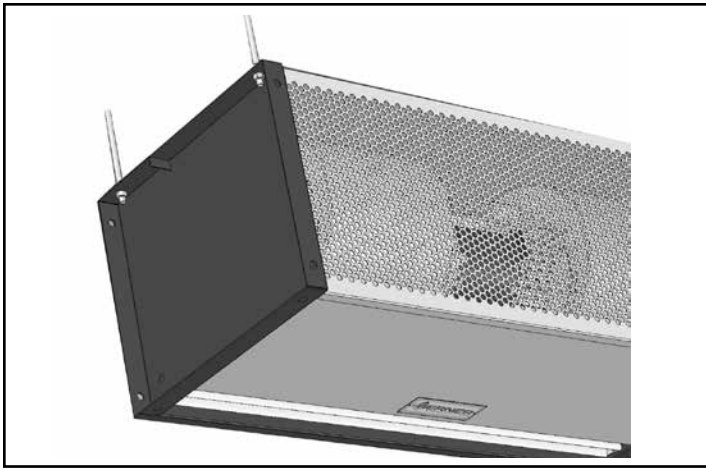
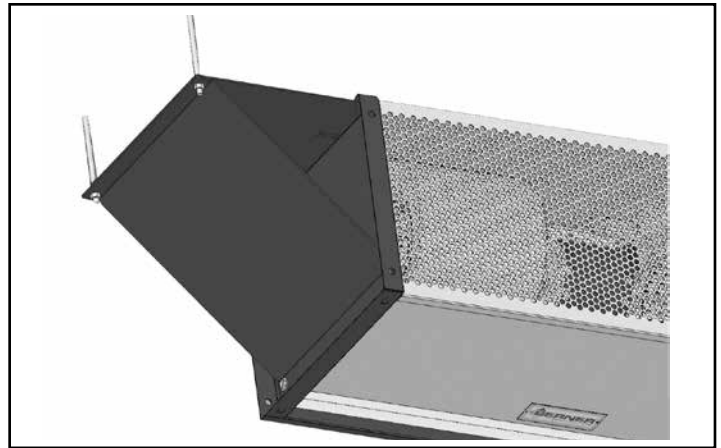

FIGURE 3 - Threaded Rod Suspension
FIGURE 4 - With Extension Brackets
- B. The IDC12/IDC14 Series end plates are equipped with 1/2" holes for suspended mounting. The unit may be suspended using a minimum 3/8" suspension rod (**Figure 3**), or using 3/8" suspension rods and extension brackets (available from Berner). **See Figure 4.**